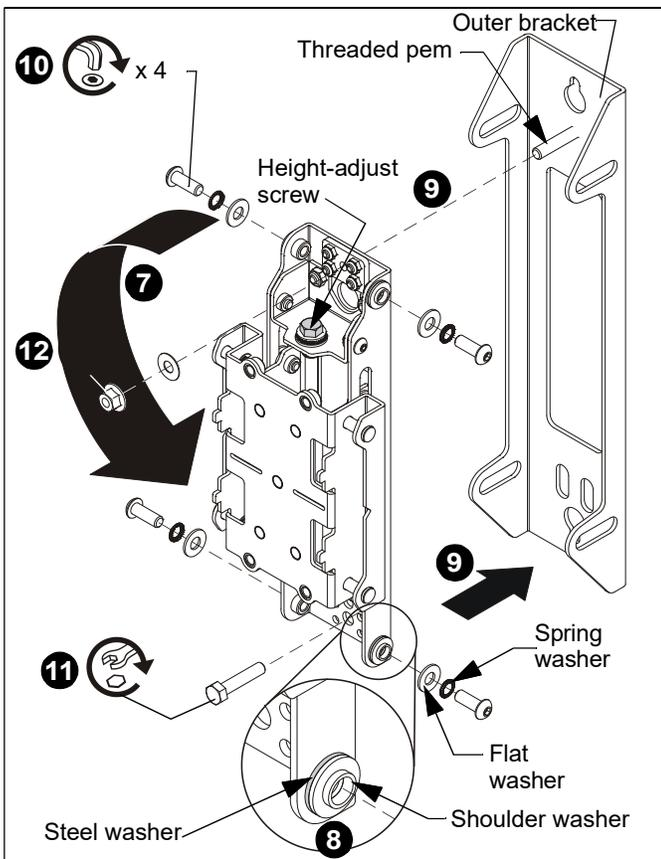

Figure 6
- Rotate wall assembly so that height-adjust screw is at top of wall upright assembly. (See Figure 6)
- Replace and tighten flanged nut and washer onto threaded pem at top of wall upright. (See Figure 6)